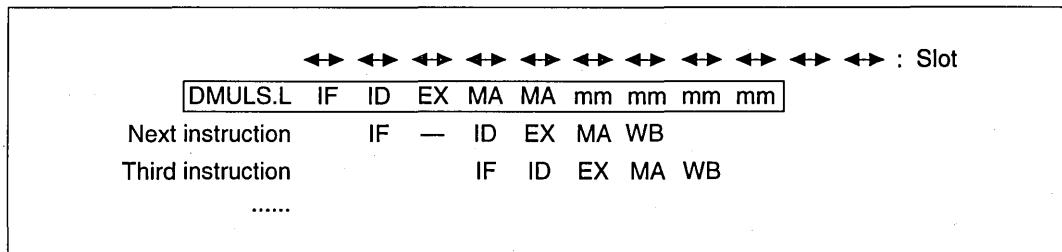

Figure 8.63 Multiplication Instruction Pipeline
The pipeline has nine stages: IF, ID, EX, MA, MA, mm, mm, mm, and mm (figure 8.63). The MA accesses the multiplier. The mm indicates that the multiplier is operating. The mm operates for four cycles after the MA ends, regardless of a slot. The ID of the instruction following the DMULSL instruction is stalled for 1 slot (see the description of the multiply/accumulate instruction). The two MA stages of the DMULSL instruction, when they contend with IF, split the slot as described in section 8.4, Contention Between Instruction Fetch (IF) and Memory Access (MA).